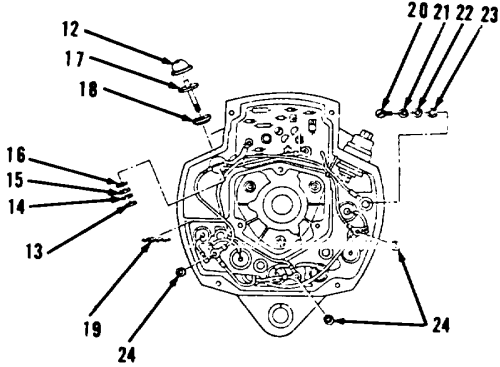
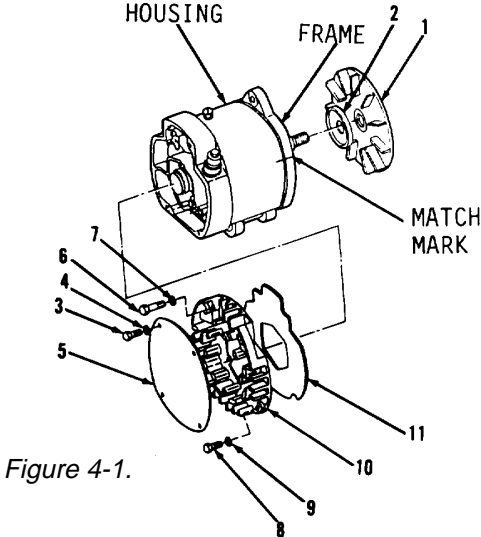

Figure 4-2.
Figure 4-1.
- 50. Install three nuts (24, Figure 4-2).
- 51. Install insulator (23), washers (22 and 21) and screw (20).
- 52. Install grommet (19).
- 53. Install bushing (18), stud (17), insulator (16), nut (15), washer (14), nut (13) and cap (12).
- 54. Position new gasket (11) and cover (10, Figure 4-1).
- 55. Install four lockwashers (9), screws (8), three lockwashers (7) and screws (6).
- 56. Install plate (5), four lockwashers (4) and screws (3).
- 57. Install slinger (2) and fan (1).